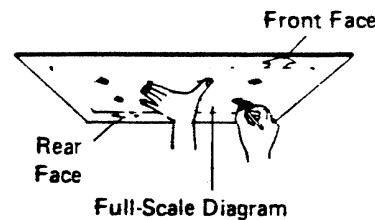

Fig. 6A
- a) Place the Full-Scale Diagram (accessory) onto the ceiling, as shown in the illustration at right. Then mark the positions of the bolt anchors where the suspension bolts are to be mounted. Fig. 6A